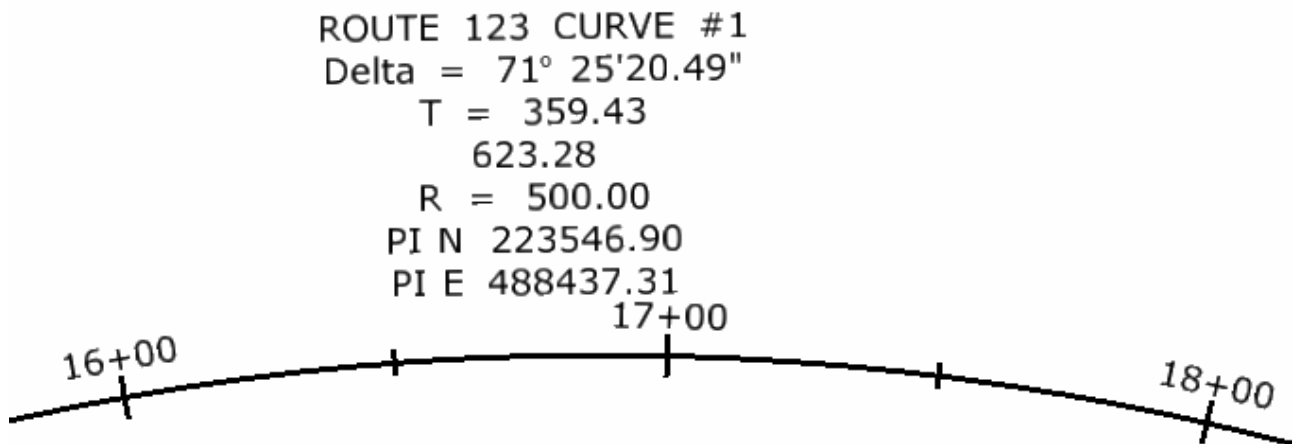

Figure 4-11 MicroStation Screen Shot of InRoads Generated Curve Data
- D. Click **Apply** and **Close**. Figure 4-11 shows the annotated curve